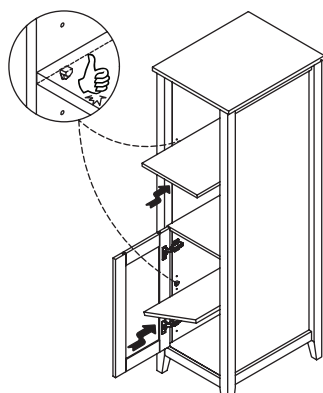

Figure 2
- 4: Insert each shelf support pin (x 8) into the pre-drilled holes in the linen cabinet, then insert each shelf (x 2). Figure 2.